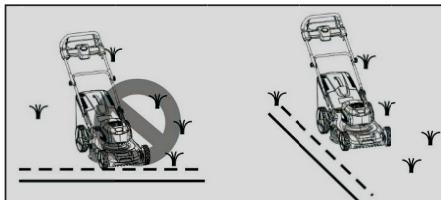

Fig.12B
4. Never lift the rear of the mower while starting the motor or during normal operation. (Fig.12B)